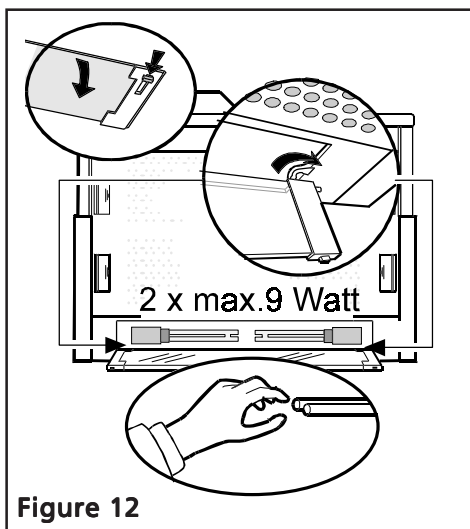

Figure 12
- Remove the light shield **Q** by pushing simultaneously the two unlocking buttons **R** (Figure 12); for safety reasons make sure to remove the light shield from its suspension slides **G**.